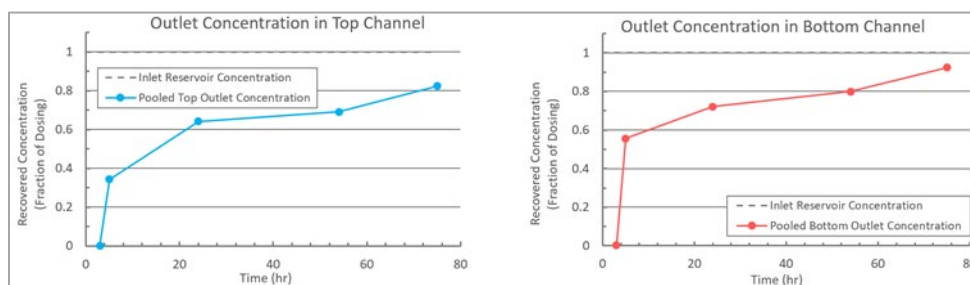

Figure 1
1. Recovered (effluent) concentrations are plotted against time for both top and bottom channels. A representative example is shown in Figure 1. This is a visualization of the “User Inputs” data, reflecting a ratio of the recovered concentration divided by the inlet concentration. A recovered concentration close to 1 at any given time point means that little compound distributes into the system, and that the effective exposure concentration is similar to the input concentration. The curves typically rise with time as the gradients that drive compound distribution diminish.